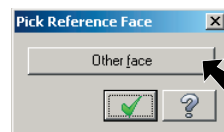
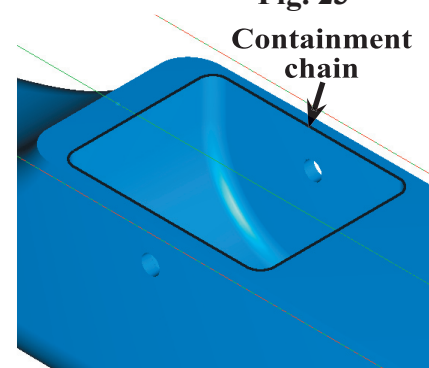

Fig. 25
Fig. 24
Step 9. Click an edge of the wheel cutout, **Fig. 24**. The edges of the bottom body face and the wheel cutout should be selected. If the wrong edges are selected, click **Other face** in Pick Reference Face dialog box, **Fig. 25**. Click the OK  in the Pick Reference Face dialog box.